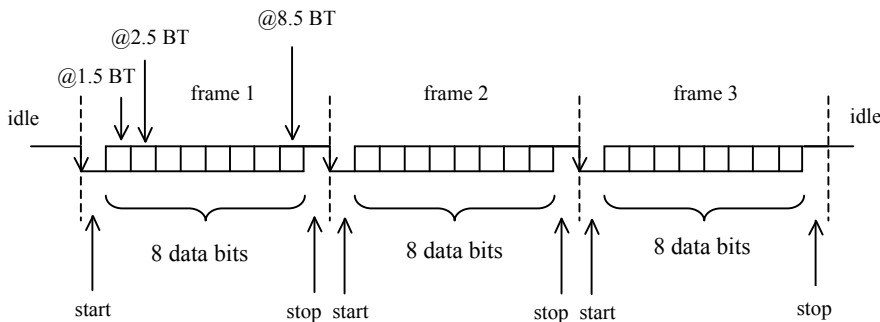

Figure 2. Serial protocol and sampling of MIDI message
The MIDI standard specifies a uni-directional serial interface running at 31,250 bits/s $\pm 1\%$, a convenient division of the typical 4MHz clock rate to be used in this lab. Fig. 2 illustrates the principle of decoding the MIDI message. It follows the general design of the Universal Synchronous and Asynchronous Receiver Transmitter (USART) (or Universal Asynchronous Receiver Transmitter (UART)) (with the exception for the baud rate). Each 8-bit byte is framed by a START bit and a STOP bit. For transmission at 31,250 bits/s, each of these bits take 32 μ s, called bit time (BT). The addition of the start bit and stop bits means that each byte of the MIDI message takes 10 bit periods to transmit, taking a total of 320 μ s.
Before the first frame is transmitted, the signal line idles high (1). The receiver monitors the line, waiting for the signal to drop to 0. Once the negative-going transition is detected, the receiver synchronizes on this transition and starts sampling the message. Conceptually, the receiver reads the 8 bits of the serial data by sampling the input “in the middle” of each bit, i.e., at 1.5 BT (bit 0), 2.5 BT (bit1), ..., 8.5 BT (bit7), as shown in Figure 2. Finally, the STOP bit is sampled at 9.5 BT, and the procedure is repeated for the next message byte, synchronizing on the start bit.